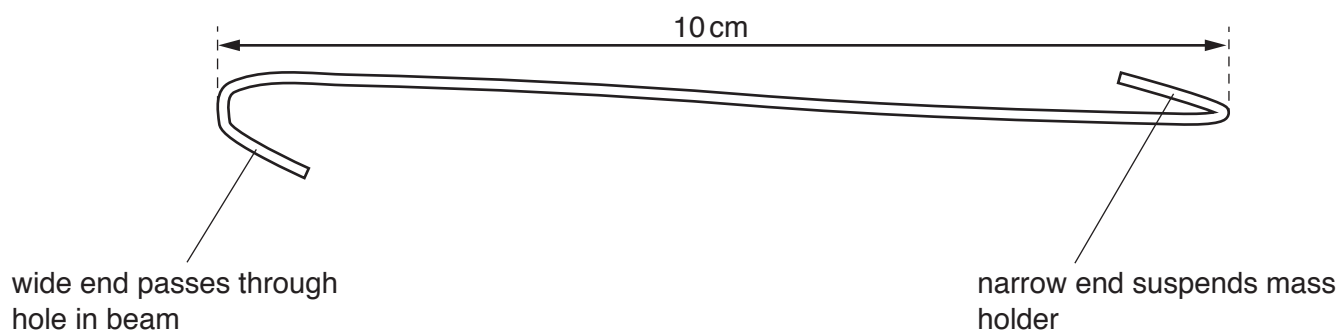

Fig. 3.5
- Candidates will use the wire hook to suspend the 200g mass from the L-shaped beam. A suitable hook may be made using a large steel paper clip, as shown in Fig. 3.5. It must be possible to suspend a 200g mass from one end of the wire hook.